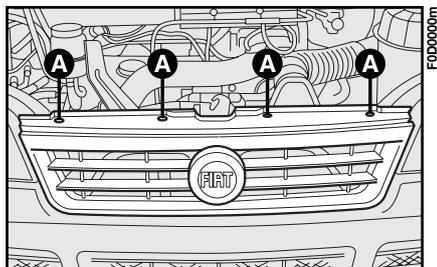

fig. 9
- 1) loosen the four screws and remove the front grid **A**-fig. 9;